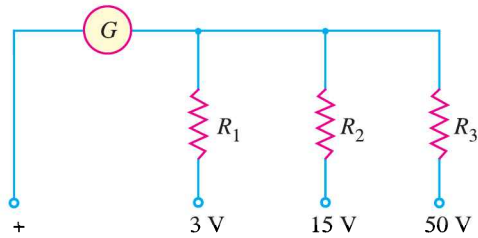

Fig. 22.29
2. The three range voltmeter is arranged as shown in Fig. 22.29. The ranges are 0 to 3 V, 0 to 15 V and 0 to 50 V as marked. If the full scale deflection current is 10 mA, what should be the values of R₁, R₂ and R₃ ? The resistance of the meter is 5 Ω.